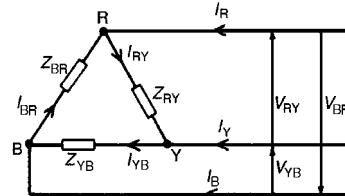
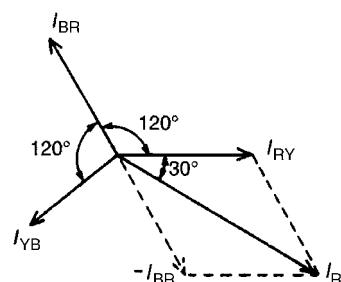

Figure 20.10
Figure 20.11
- A **delta (or mesh) connected load** is shown in Fig. 20.10 where the end of one load is connected to the start of the next load.
- From Fig. 20.10, it can be seen that the line voltages V_{RY} , V_{YB} and V_{BR} are the respective phase voltages, i.e. for a delta connection:
- Using Kirchhoff's current law in Fig. 20.10, $I_R = I_{RY} - I_{BR} = I_{RY} + (-I_{BR})$. From the phasor diagram shown in Fig. 20.11, by trigonometry or by measurement, $I_R = \sqrt{3}I_{RY}$, i.e. for a delta connection: